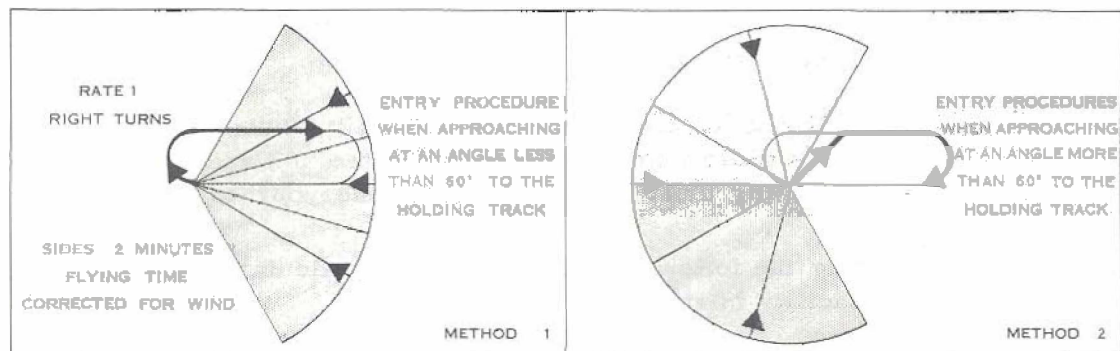

Figure 6: ADF Holding Patterns
(3) As shown in Figure 6, there are two methods of entering the holding pattern. The one you must choose depends on the relative direction of the aircraft to the specified in-bound heading. For purposes of explanation, you are presumed to have adopted Method 1 and are homing-in to the facility.
(4) As soon as you receive "Station Passage", you should go into the holding pattern by reducing power to 20" MP with an airspeed of at least 100K: the manifold pressure may be adjusted as required to give this airspeed. The lower power setting results in better fuel consumption, while the 100K airspeed ensures that you have good control over the aircraft. A cockpit check is not required at this stage, but you should be aware of the amount of fuel remaining and you should re-set the DI with the magnesyn compass. After "Station Passage" the aircraft must be flown in a Rate 1 turn onto the first out-bound heading: it should be possible to make a rough estimate of drift on this first leg. The timing of the out-bound leg is adjusted to give a time of two minutes inbound. At the end of two minutes you must make a Rate 1, right turn through 135 degrees so that the in-bound heading can be intercepted at 45 degrees. The length of time taken to reach the in-bound heading while flying towards it at a 45 degree angle gives an indication of the amount of drift. A correction can be made while flying down the in-bound heading to the facility so that, by the time you are on the second circuit, all drift has been eliminated. On each circuit you must note the time of receiving "Station Passage" so that your holding may be adjusted if your estimated approach time (EAT) is less than 6 minutes away.